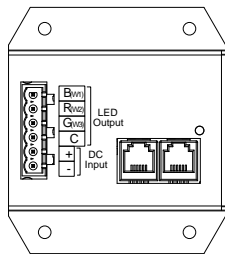

Figure 1
2. Connect wires as shown in Figure 1